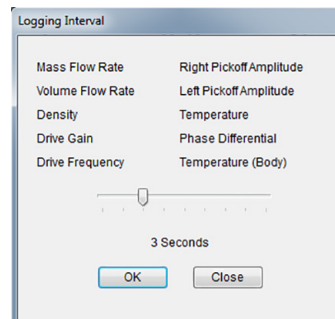

Figure 3.2—Sample logging interval (3 seconds) dialog
- **3 Seconds to 10 Minutes.** Choosing this interval (shown in Figure 3.2 below) selects up to ten variables (mass flow rate, volume flow rate, density, drive gain, drive frequency, right and left pickoff amplitudes, sensor body temperature, sensor tube temperature, and phase differential) for logging. Sensor body temperature will only appear when communicating with a CamCor PRO Series meter.